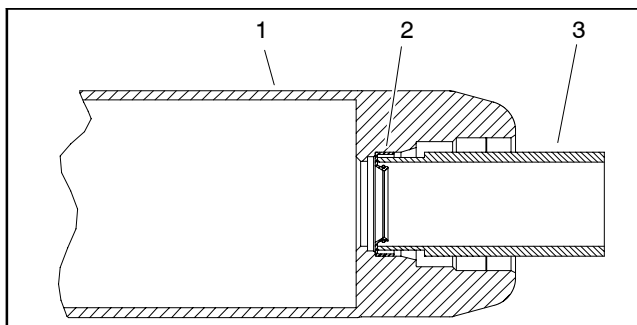

Figure 8
1. Install inner seals into roller tube making sure that seal lip (and garter spring) faces end of tube. Use inner seal tool (see Special Tools) and soft face hammer to fully seat seals against roller shoulder (Fig. 8). Apply a small amount of grease around the lip of both inner seals after installation.